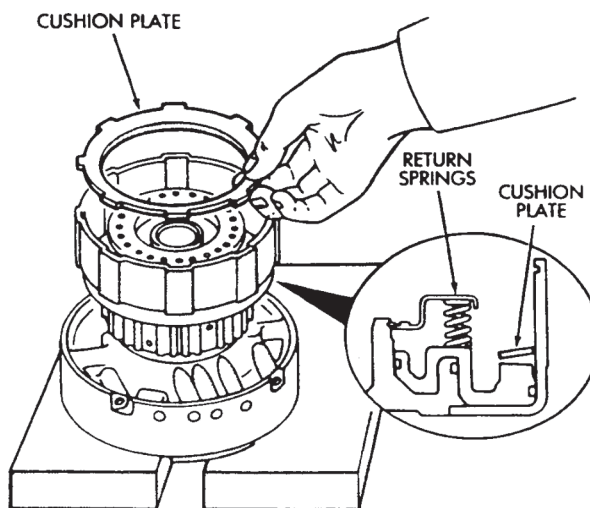

Fig. 5 Removing Cushion Plate
(9) Remove clutch pack cushion plate (Fig. 5).
(10) Compress clutch springs with tool B.Vi. FM. 27 and remove piston snap ring.
(11) Remove spring compressor tool and piston return springs.